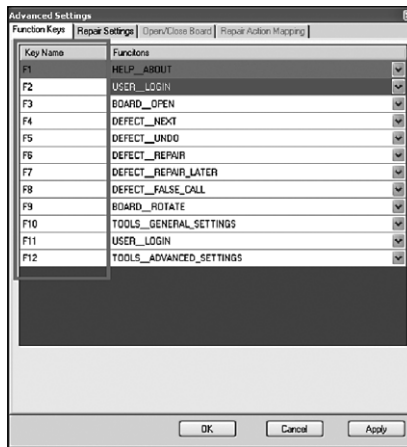

Figure 2. Function Keys Menu
2. In the Advanced Settings menu, under **Function Keys** tab, you will see a list of keys from F1 to F12 which are actually function keys from the standard PC keyboard itself, see Figure 2.